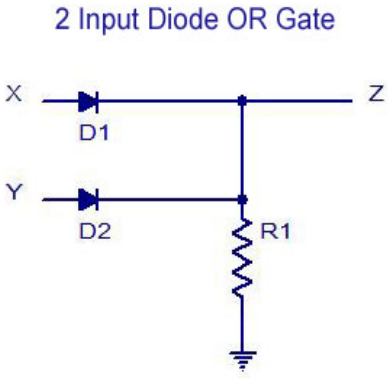

Figure 3.28 A 2-input Diode logic OR gate
4. **Diode logic - OR gate:** A 2-input OR gate circuit based on diode logic is shown in Figure 3.28. For this figure, the output, Z, will be HIGH (logic1) when X is HIGH, or Y is HIGH or both X and Y are HIGH. However, the output is LOW when both X and Y are LOW. The truth table is shown in table 13.14. The output function for this gate is $Z = X+Y$.